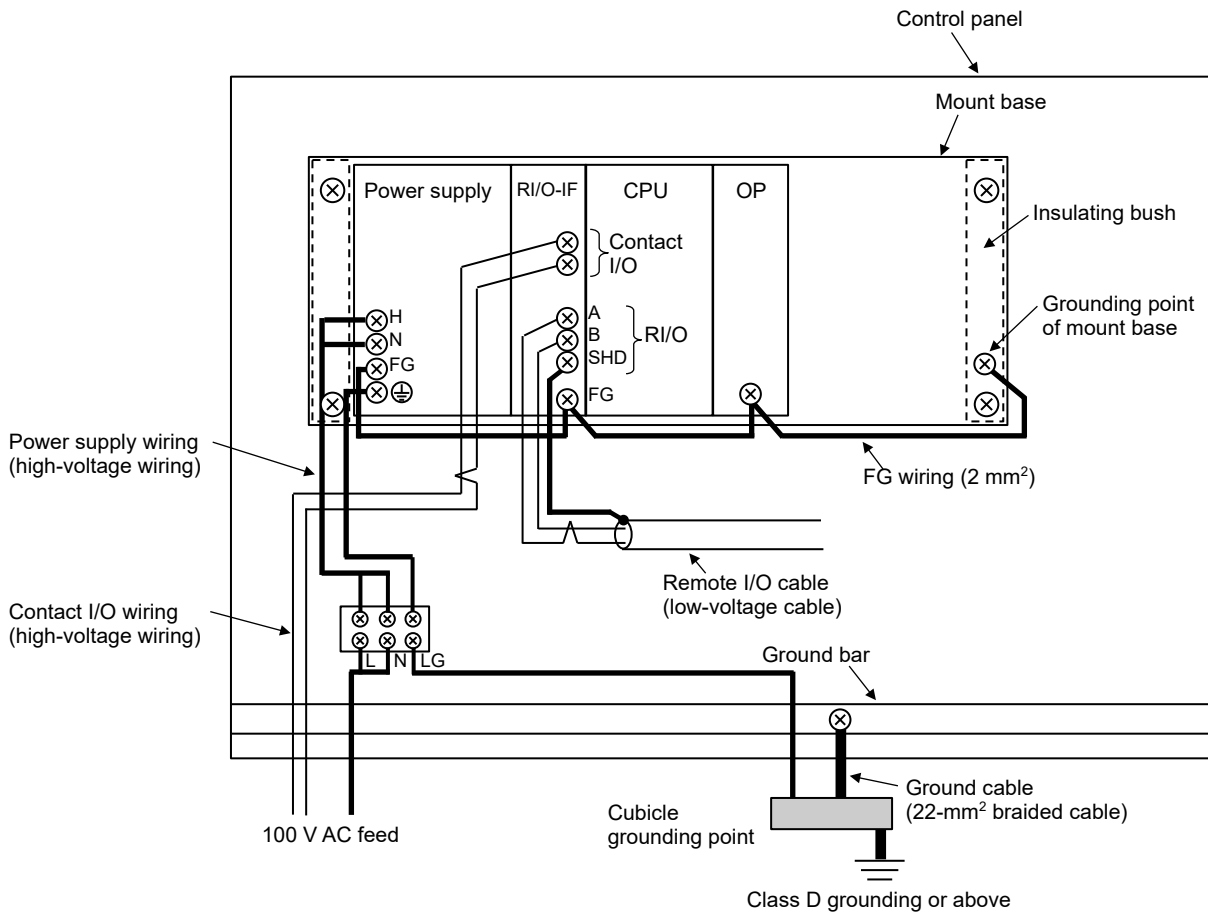

Figure 2-6 Example power supply module and ground wiring
- When performing wiring, keep high-voltage and low-voltage cables separate (see Figure 2-6).
- Connect the protective grounding terminal of the power supply module (⊕) to the grounding point. Connect the FG terminals of the RI/O-IF module and optional modules with the FG terminals of the adjacent modules and mount base in a daisy chain, and then connect the end of the daisy chain to the FG terminal of the power supply module. Also, keep each grounding wire as short as possible (see Figure 2-6).